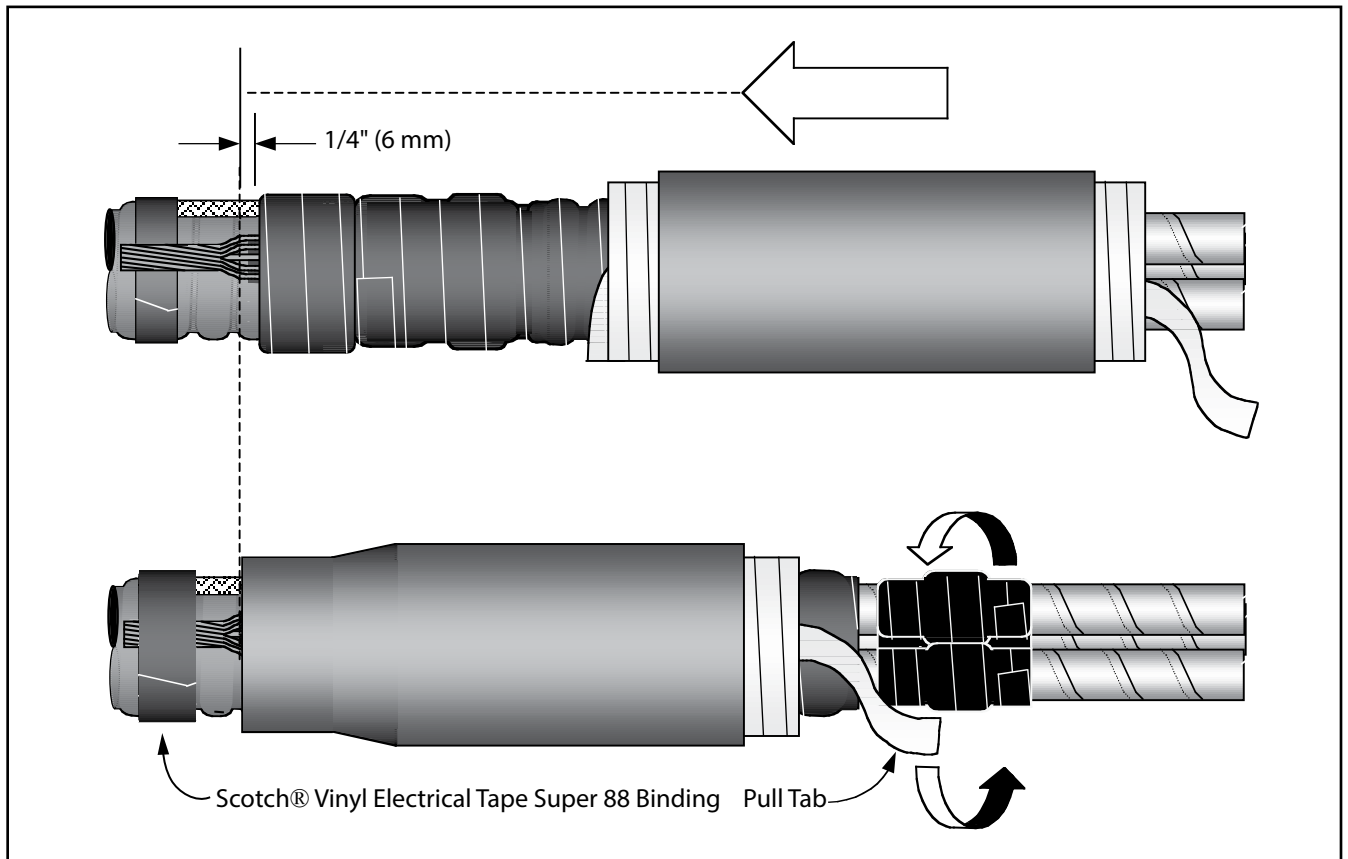

Figure 12
- 2.16 Install cold shrink jacket extension assembly. Align the jacket seal tube (not the plastic support core) to overlap ground wire seal area by approximately 1/4" (6 mm). To install, pull loose core end, while unwinding counter-clockwise around the cable. (Figure 12).
- 2.17 Bind cable ground wire and ground braid tail to cable jacket using Scotch® Vinyl Electrical Tape Super 88 (wide vinyl tape) (Figure 12). Apply at least eight tape layers and wrap only to width of tape roll.